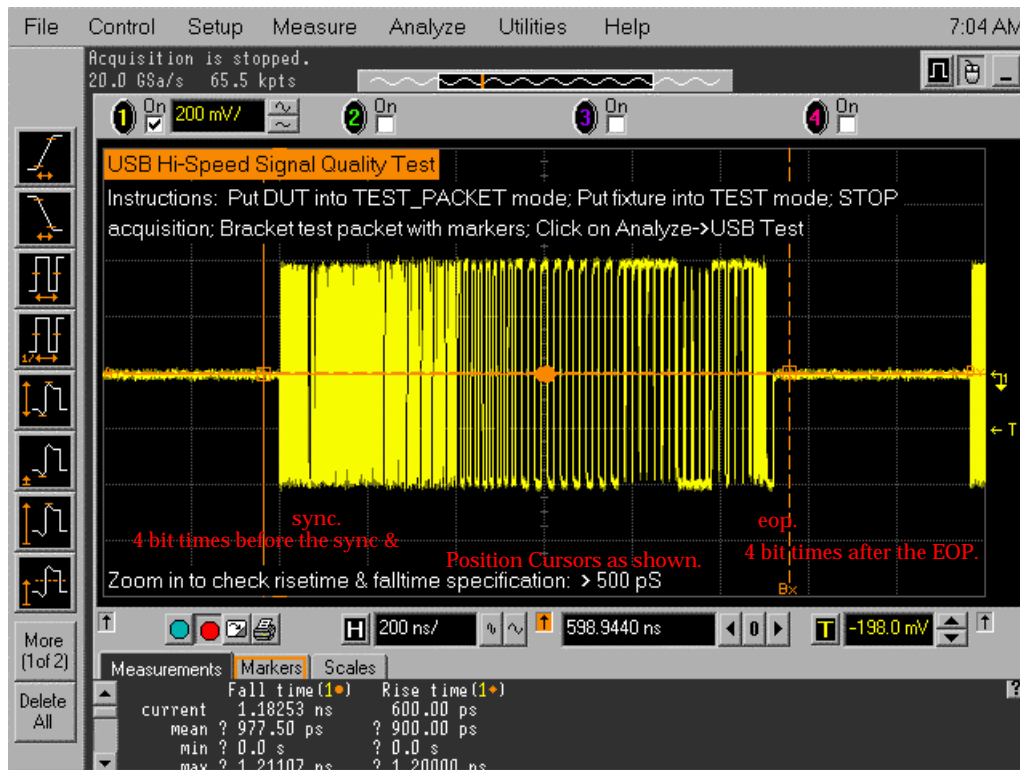

Figure 6. Test Packet – Upstream Facing Port
- a. This forces the hub under test to continuously transmit test packets as shown in Figure 6
13. On the oscilloscope adjust the two vertical markers around one test packet, as shown in Figure 6...